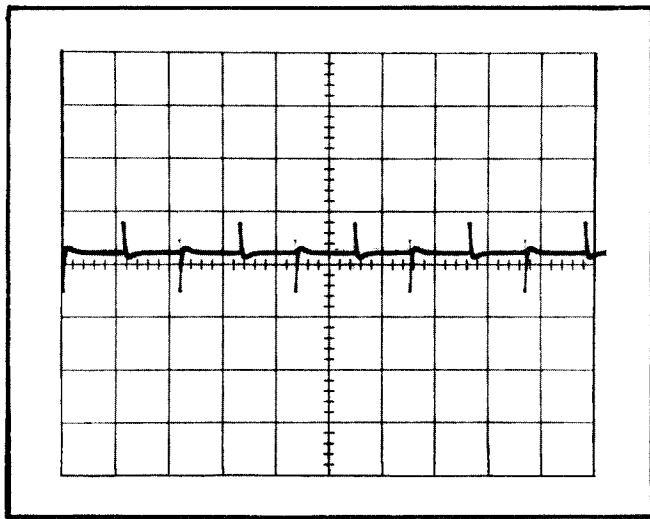

Fig. 5-4. Typical display obtained when Input Attenuators are adjusted for optimum differential balance.
f. CHECK—For optimum differential balance according to the information given in Table 5-4. When properly adjusted, the waveform should appear as shown in Fig. 5-4. Disregard any spikes on the waveform.
g. ADJUST—R108E, R109E and R110E (see Fig. 5-1) for minimum amplitude as shown in Fig. 5-4, using Table 5-4 as a guide.